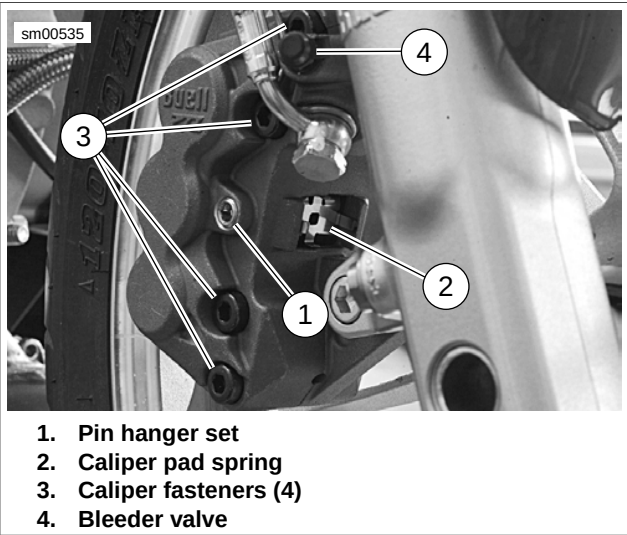
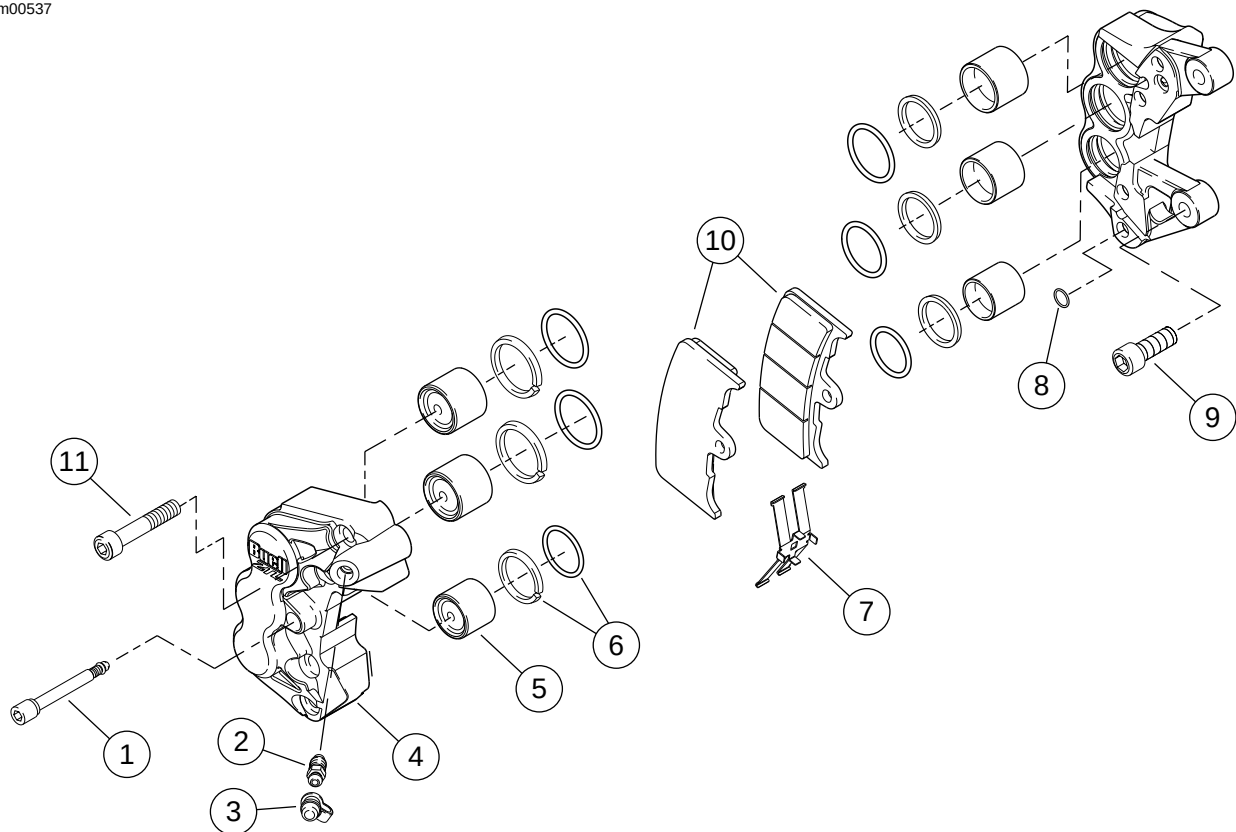

Figure 2-42. Pad Spring (Typical)
Figure 2-44. Front Caliper Assembly
- 1. See Figure 2-42. Remove pin hanger set (1), brake pads and caliper pad spring (2).
- 2. Split caliper by removing caliper fasteners (3).
- 3. See Figure 2-44. Remove and discard o-rings (8).
- 5. See Figure 2-44. Remove and discard piston o-rings (6).
- See Figure 2-44. Install pistons and o-rings.
- Lubricate **new** o-rings (6), pistons (5), and caliper piston bores with **D.O.T. 4 BRAKE FLUID**.
- Install two **new** o-rings (6) in grooves of each piston bore.
- Install pistons (5) in each piston bore.
- Install **new** o-rings (8) between caliper halves.
- Clamp caliper together with caliper fasteners (11) and tighten to 15-19 ft-lbs (20-26 Nm).
- See Figure 2-44. Install pad spring (7) and brake pads (10).
- Install pin hanger set (1) and tighten to 11-14 ft-lbs (15-19 Nm).
- Slide the caliper over the rotor up to the mount and install caliper on caliper mount. Using LOCTITE 271 (red). Tighten caliper mounting fasteners (9) to 35-37 ft-lbs (47-50 Nm).